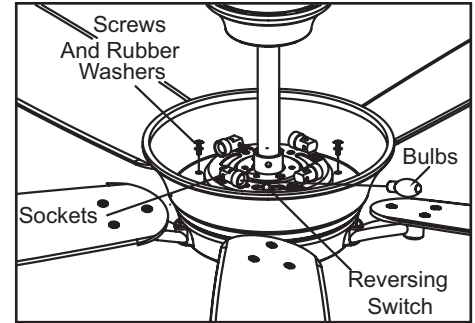

Figure 10
2. Carefully place the decorative glass housing onto the fan motor assembly (Figure 10).
The fan shipped from the factory with the reversing switch positioned to circulate air downward. If airflow is desired in the opposite direction, turn your fan off and wait for the blades to stop turning, then slide the reversing switch (located at the top of the motor housing, refer to figure 10 on page 5) to opposite position, and turn fan on again. The fan blades will turn in the opposite direction and reverse the airflow.